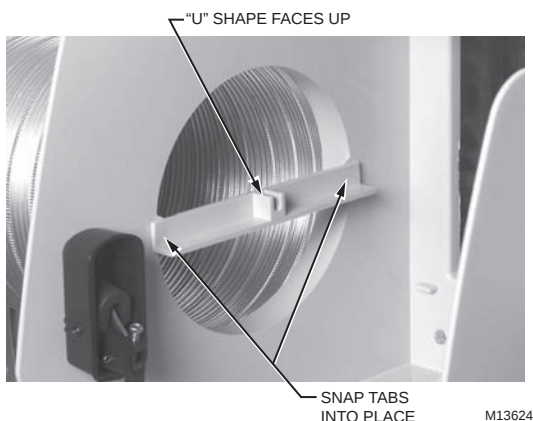

Fig. 20. Installing Bearing Bracket.
1. Position the Bearing Bracket inside the Humidifier Housing to the side where the Bypass Duct is connected. Make sure the "U" shape is pointing up. See Fig 20.